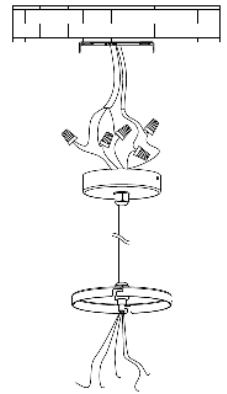

Fig. 9
4. Connect the wires as per the wiring diagram and local electrical code. (Fig. 9)